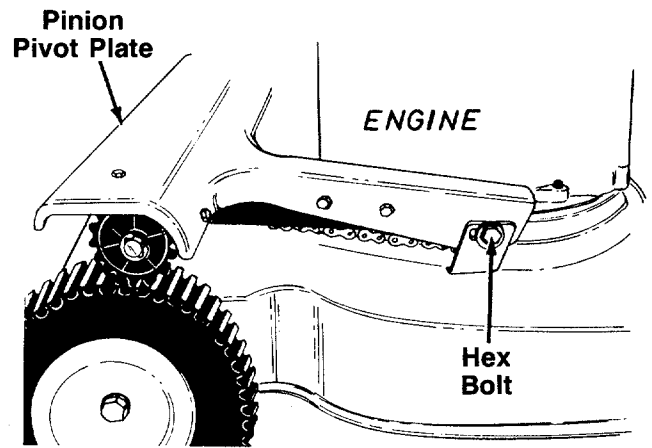

FIGURE 24.
1. Loosen (do not remove) the hex bolt on each side of the pinion pivot plate. See figure 24.